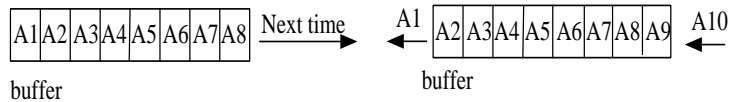

Figure 3-34
2. Assuming the Reading Average Time is set to = 8, Average Method to MOVING, the readings sampling is that the device removes the oldest sample in the buffer and saves a new sample, then average them in repetition as Figure 3-34 shows.